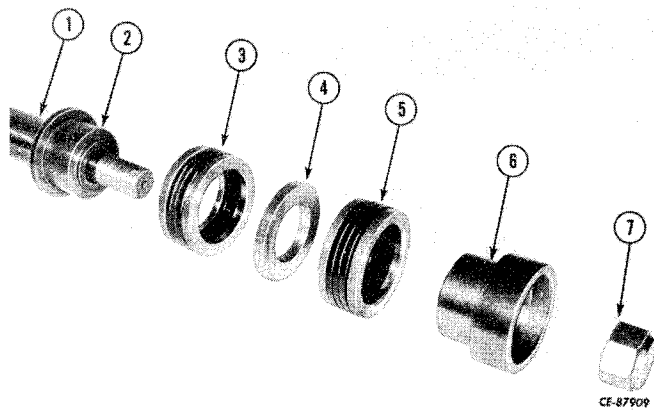

Figure 11-14
Loosen and remove the nut (7, Fig. 11-14). Slide the piston half (6), packing (5), spacer (4), packing (3) and piston half (2) from the rod (1). Discard the packing and nut.
Install the piston half (2, Fig. 11-14) on the rod (1). Install a new piston packing (3). Cross section of packing ring is "V" shaped. Open end of "V" must face piston half (2). Install spacer (4) and new piston packing (5). Open end of "V" must face piston half (6) when installed. Install piston half (6) with new hex nut (7). **TIGHTEN HEX NUT TO RECOMMENDED TORQUE (REFER TO "SPECIAL TORQUES").**